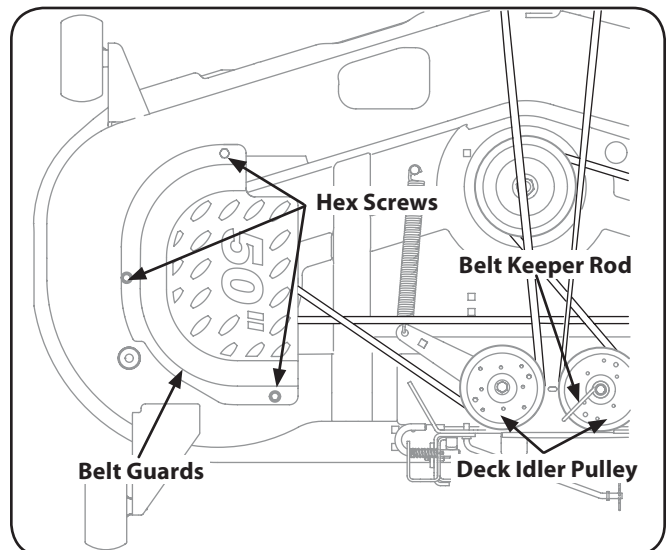

Figure 7-10
2. Remove the belt guards by removing the hex screws that fasten them to the deck. See Fig. 7-10.